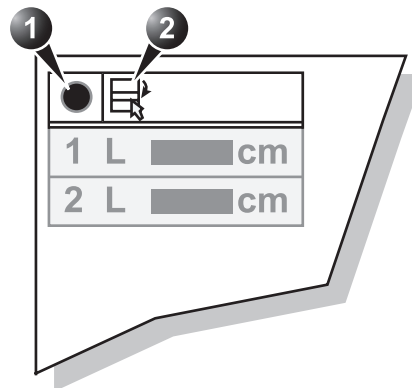

Figure 4-5: Measurement result table display tools
1. Move the **Mouse cursor** to the symbol  on the heading of the *Measurement result table* (see Figure 4-5).